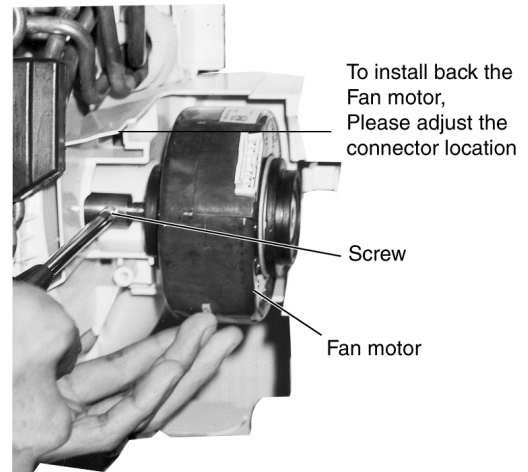

Fig. 5
(Fig. 5)
- REMINDER - To reinstall the fan motor, adjust the connector of the fan motor as Fig. 5.